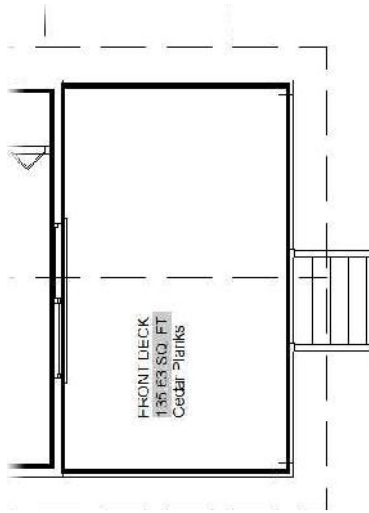

FIGURE 9.37: The front deck after stretching it to the right
4. Pick any location in the drawing area as the base point, move the cursor to the right, and then click to stretch the deck, as shown in Figure 9.37. Use Ortho mode or Polar Tracking to stretch the objects directly to the right.